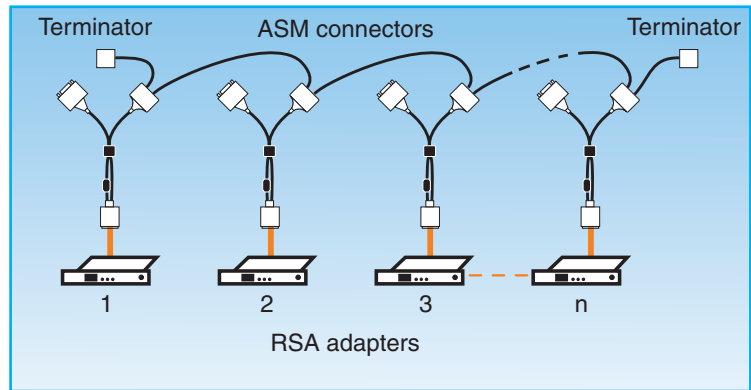
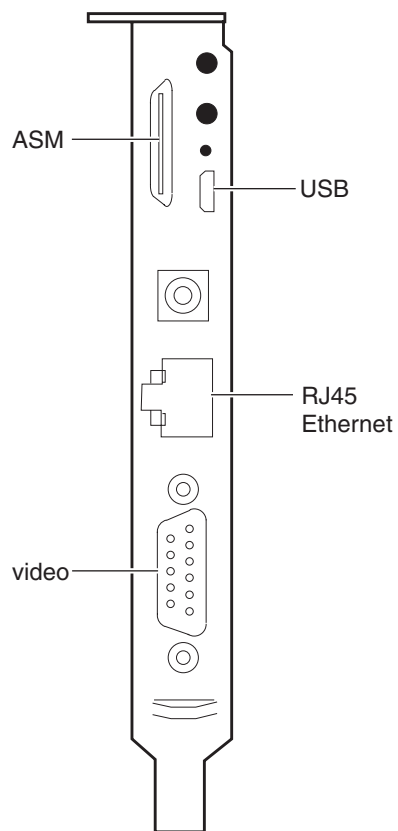

Figure 4. Connecting the RSA adapters together
Figure 5. RSA II adapter connectors
- c. Connect a ASM breakout cable (dongle) to the ASM connector on the RSA II card in each of the engines present in the SAN FS cluster. Connect the ASM breakout cable to the previous and next ASM breakout cables with RJ-45 cables. The first and last RJ-45 sockets in the chain must be terminated with the terminators provided. See Figure 4 on page 39. and Figure 5 on page 39.